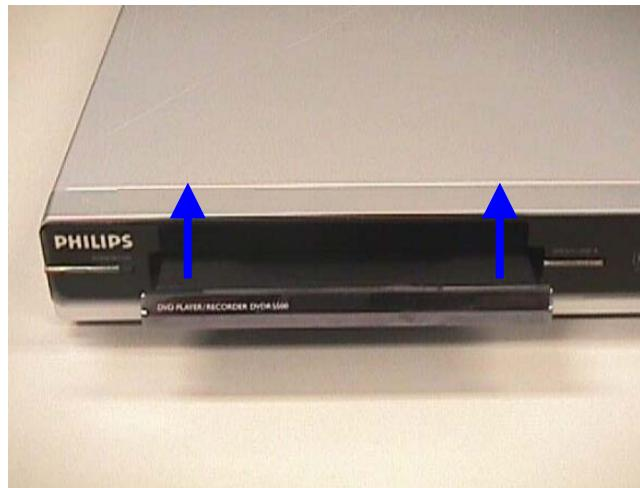

Figure 2 - remove the tray cover
- 2) Remove the Tray cover 110 as shown in Figure 2.